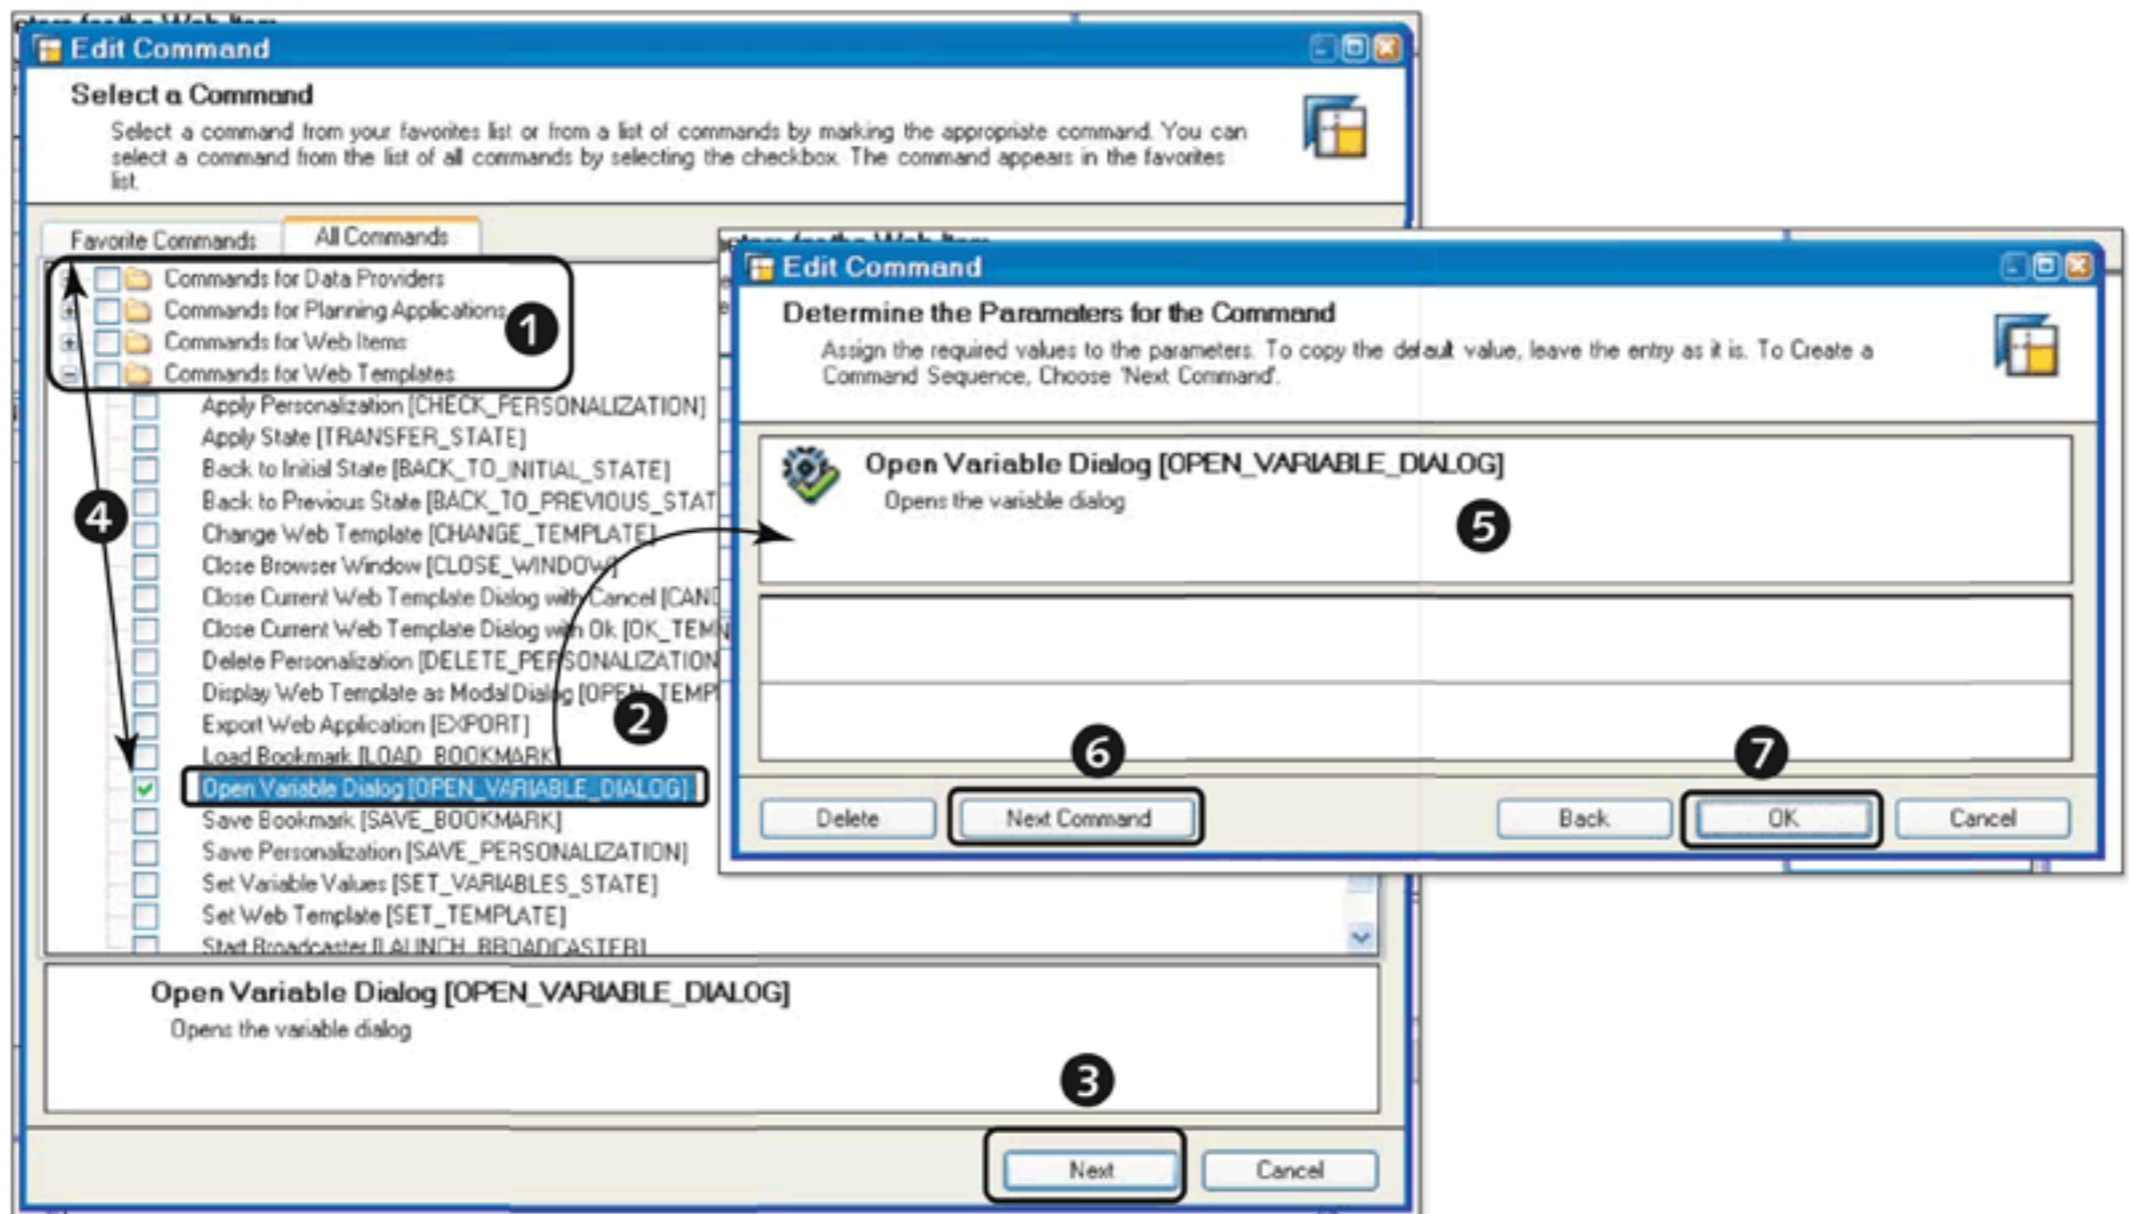

Figure 11.13 Assign a Command
The Command Wizard includes a variety of commands that can be used in the web template to create effective applications for analysis or planning (see Figure 11.13). Based on the usage and applicability, these commands are grouped in four
different sections, as shown in ❶ of Figure 11.13. (Again, these commands are discussed in more detail in Section 11.4 of this chapter.)
For the example scenario, we need a command to call up the variable screen. This command is available under the COMMANDS FOR WEB TEMPLATES section (❶ of Figure 11.13). Select the command OPEN VARIABLE DIALOG (OPEN_VARIABLE_DIALOG) (❷), and click on the NEXT button to set the parameters for this command (❸). You can also maintain a list of frequently used commands as your favorites by selecting the checkbox in front of a command (❹). All commands where the checkbox is selected will appear on the FAVORITE COMMANDS tab page (❹).